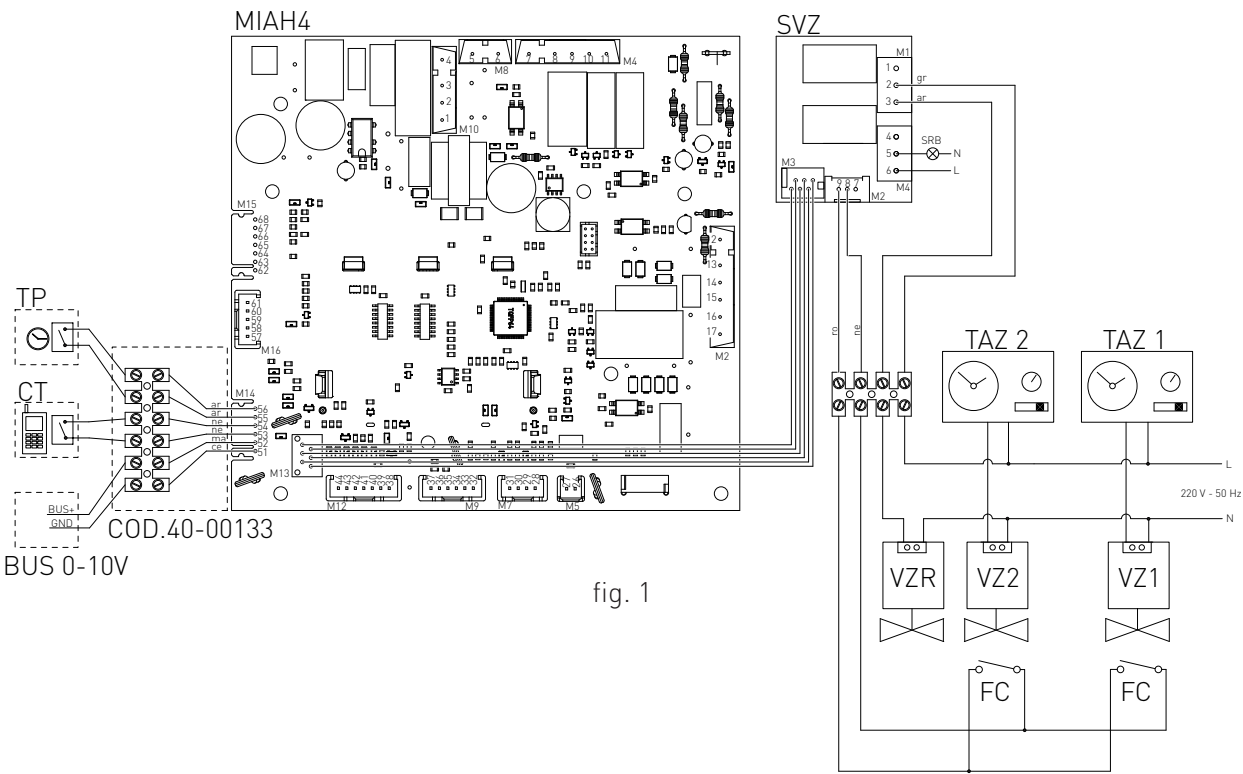

fig. 1
- › after removing the crankcase, connect the items below to the electronic board (see fig. 1):
- › If a vertical fumes duct is installed, insert a condensate collection siphon at the base of the duct connected to the sewerage system of the location (fig. 1).
For this type of boiler are available the following fumes discharge configurations: B23P, B33, C13, C33, C43, C53, C63, C83 e C93 (see Fig. 1).